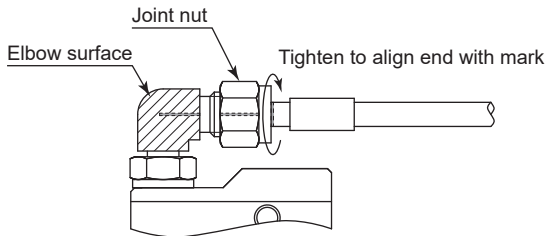

Fig. 20
- (2) Fit an adjustable wrench on the elbow surface (shaded area) of the high-pressure coolant fitting to hold it in place, and use another adjustable wrench to tighten the joint nut to its original tightening position. (Check that the matching lines are aligned and the end of the joint nut is aligned with the mark on the hose). (Fig. 20)